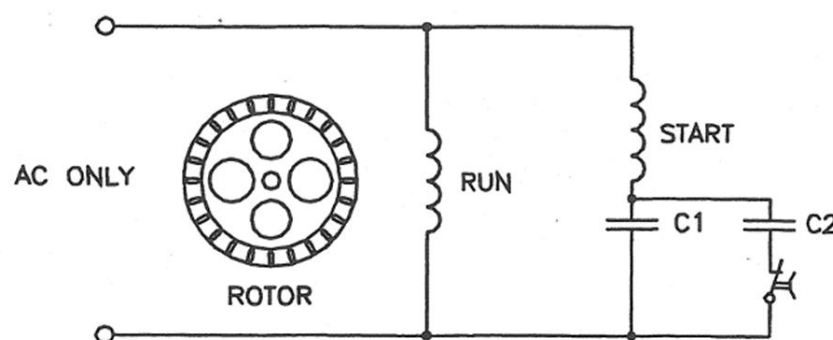

Figure 12 - Capacitor start capacitor run motor connections.
35. Capacitor start capacitor run motors are similar in operation to the capacitor start motor except that they have another capacitor permanently connected in series with the start winding, in addition to the starting capacitor as shown in Figure 12. Various centrifugal switch connection arrangements are possible.
36. The two capacitors in parallel during starting provides good starting torque, while the running capacitor provides good running torque, better overload capacity, better efficiency, better power factor and quieter operation. The capacity of the running capacitor is usually lower than that of the starting capacitor (usually less than $20 \mu\text{F}$). It is important that the two capacitors are connected in the circuit correctly as they are designed for different purposes. In Figure 12, the starting capacitor (C2) is a non-polarised Aluminium Electrolytic capacitor (usually greater than $70 \mu\text{F}$) and is only designed to be energised for a short time. The Run capacitor (C1) is a polypropylene film capacitor and is designed for continuous duty. This type of motor is widely used for driving refrigerator compressors.